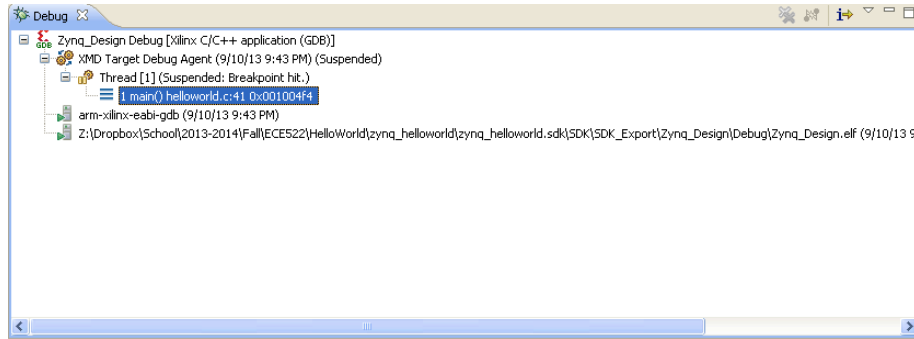

Figure 47: Processor Core to Debug
13. In the **Debug** tab, expand the tree, and select the processor core on which the program is to be run (FIGURE 47).